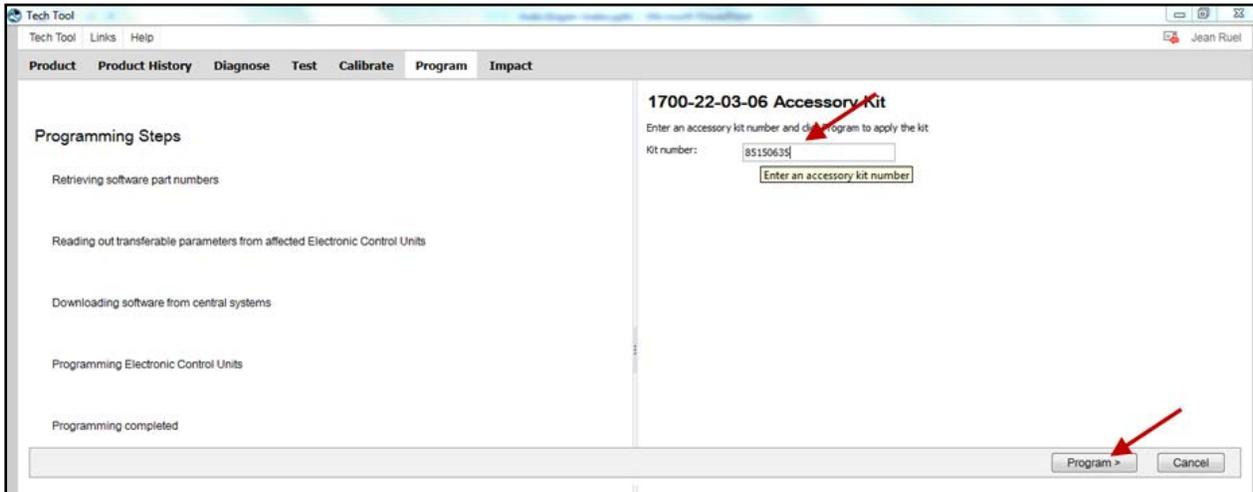
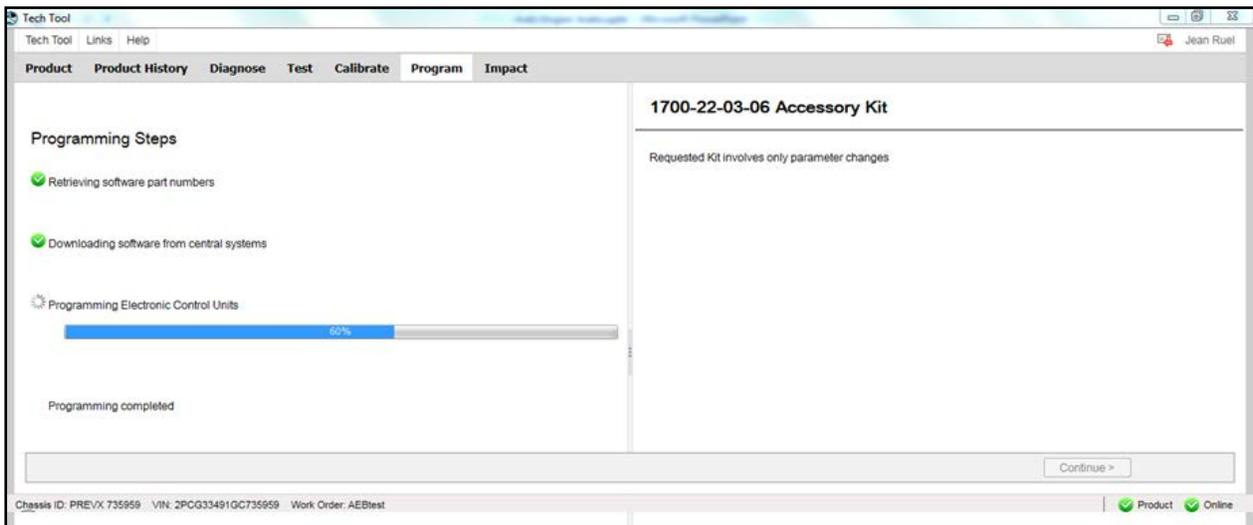

FIGURE 2
FIGURE 3
2. Enter the accessory kit number 85150635 (FIGURE 2).
3. Click on PROGRAM button below and then follow the instructions. The programming process will start (FIGURE 2, FIGURE 3).